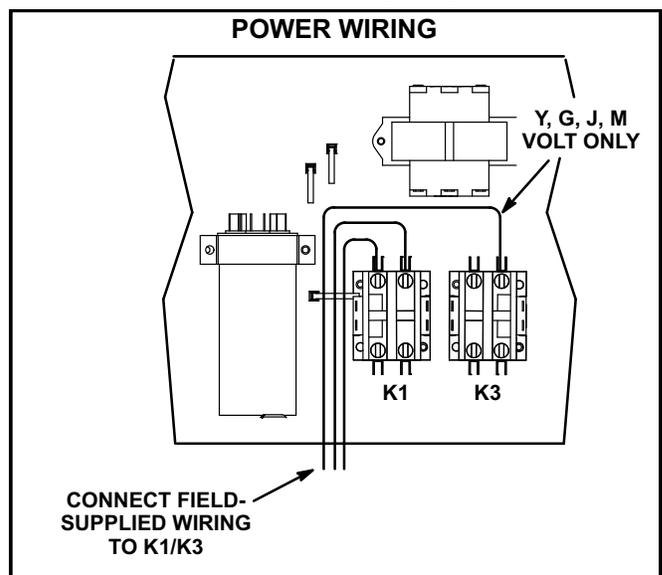

FIGURE 11
- 2- Route power through the side or bottom power entry area. For bottom power entry, a bottom power entry kit must be used. Connect power wiring to K1/K3 contactors in the control box. See figure 11. On ZC units equipped with electric heat, route power wiring to TB2; see parts arrangement for location. See unit wiring diagram.